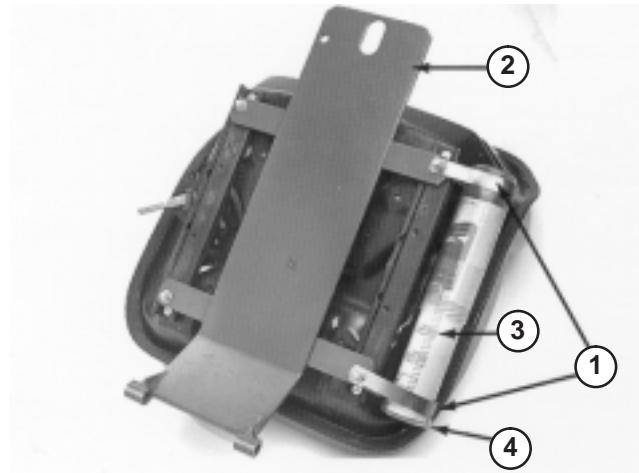

Figure 7
1. Loosely secure (2) R-clamps to right side of seat bottom with 2 capscrews and flat washers supplied in kit (Fig. 7). Install manual tube into R-clamps and tighten capscrews (Fig. 7).